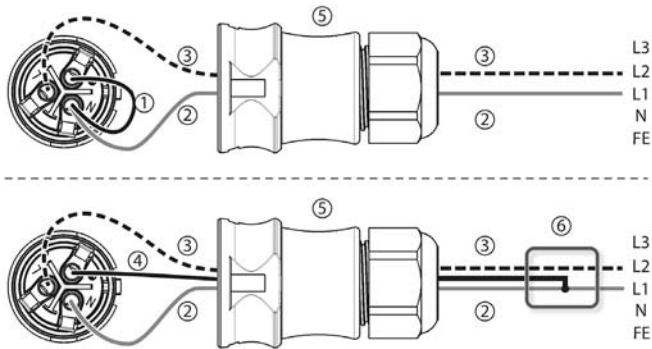

Figure 24
- N and L are connected between the L1 – L2 external conductors on the inverter side. See ② and ③ in Figure 24.
- Figure 24 shows an example of an inverter-side connection between L1 and PE:
- Top: Connection ① in the AC plug ⑤
- Bottom: Connection ④ in an external junction box ⑥
- Figure 24: as above.
- Connect one of the two connected phases to PE at the inverter side. Make this connection inside the AC plug or use an external junction box; see Figure 24.